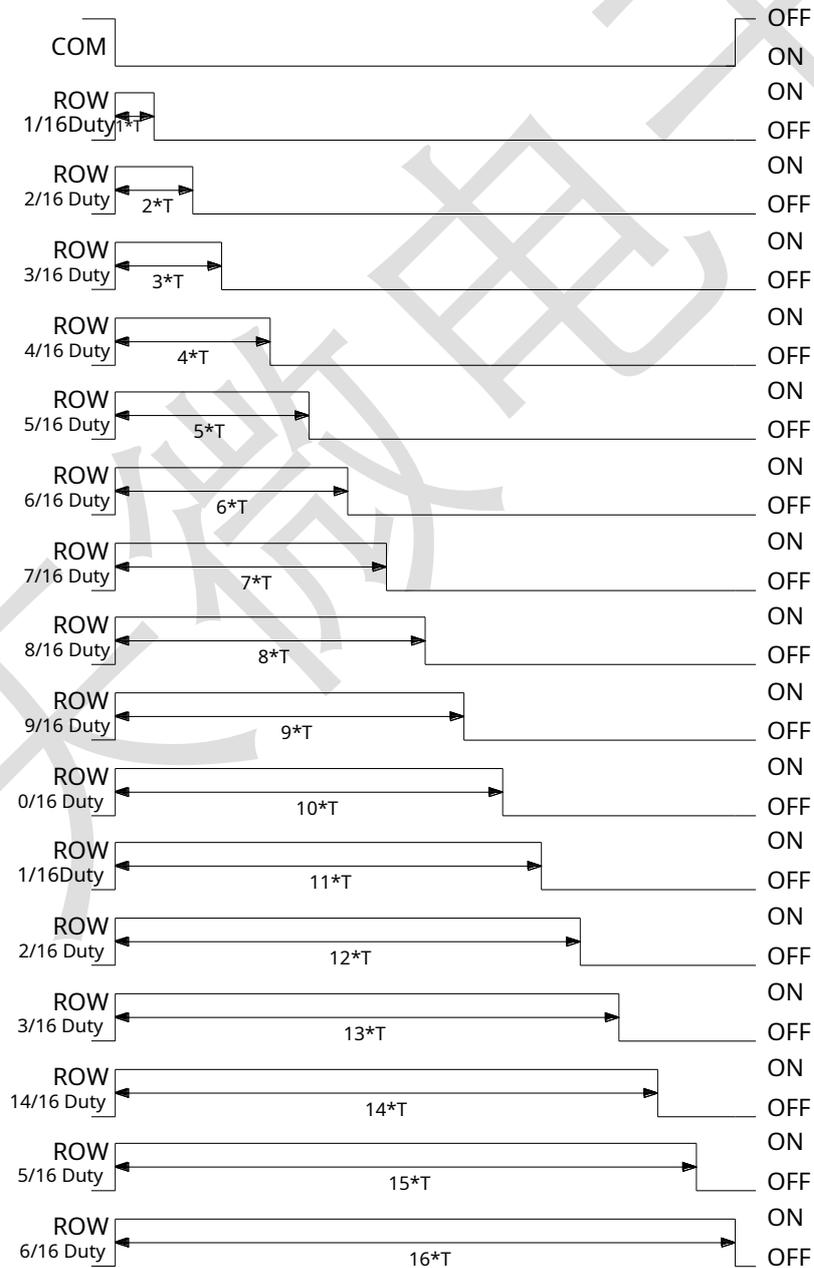

Figure 11
TM1680 can perform multiple brightness controls by setting the PWM drive pulse width at the ROW terminal. Figure 11 below shows the output waveforms of the COM and ROW terminals under different duty ratio conditions: (1) $T=20 \times T_{clk}$ (32*8 drive mode); (2) $T=10 \times T_{clk}$ (24*16 drive mode); (3) $T_{clk}=1/F_{sys}$